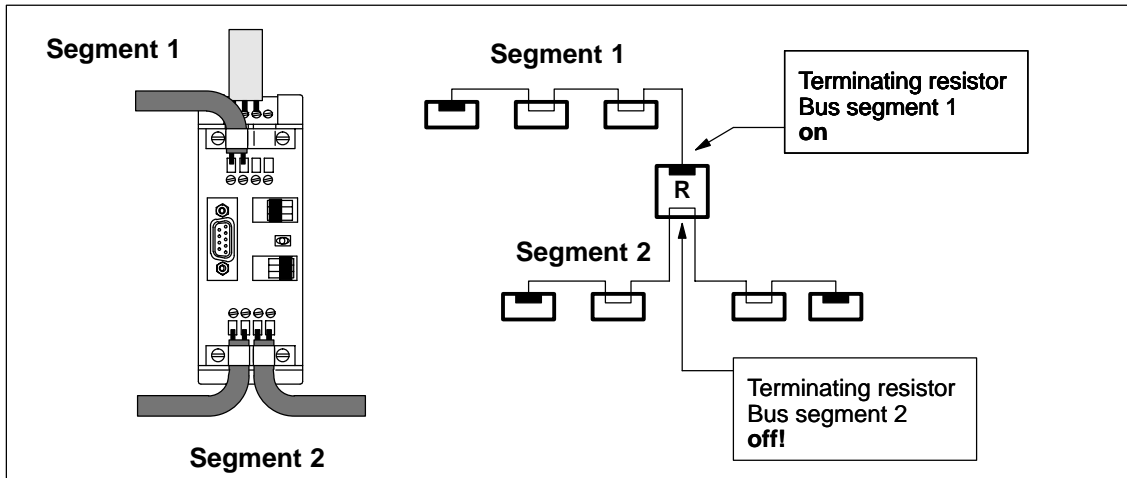

Figure 5-4 Connecting Two Bus Segments to the RS-485 Repeater
- Segment 1 terminated on the RS-485 repeater and segment 2 connected through on the RS-485 repeater (see Figure 5-4 )
Figure 5-4 shows the connection between two segments via an RS-485 repeater with one segment connected through: